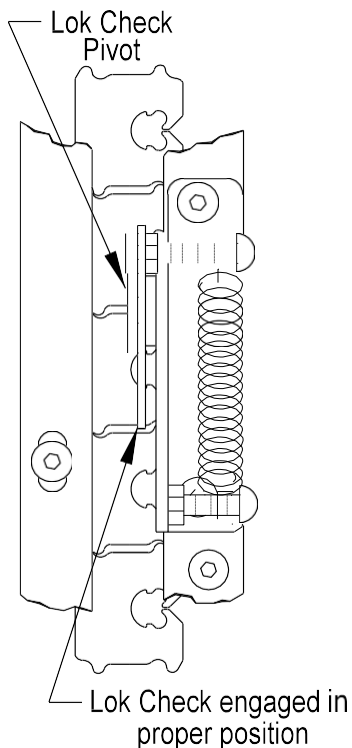

Figure 5.7
3. Flip the check-pick (Figure 5.7) up out of the operating position to allow the closure strip to move freely up and down the clip track.
G. CHECK ADJUSTMENT: (Figure 5.7)